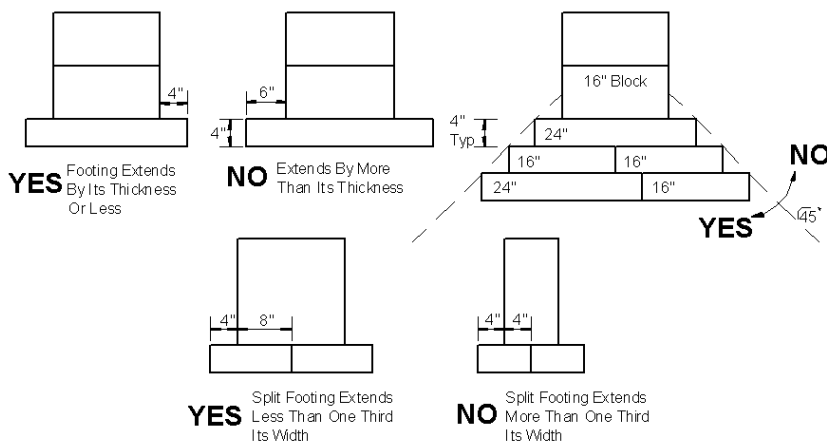

Figure 13. Maximum footing extensions
- The footing sizes are for square pads and are based on the area (in²) shear and bending req'd for the loads shown. Other configurations, such as rectangular or circular configurations, can be used, provided the area and depth is equal to or greater than the area and depth of the square footing shown in the table, and the distance from the edge of the pier to the edge of the footing is not less than the thickness of the footing. (Figure 13).
- Design footings with a footing extension (projection beyond the base of the pier) no greater than the footing thickness (Figure 13). Increase footing thickness if necessary.